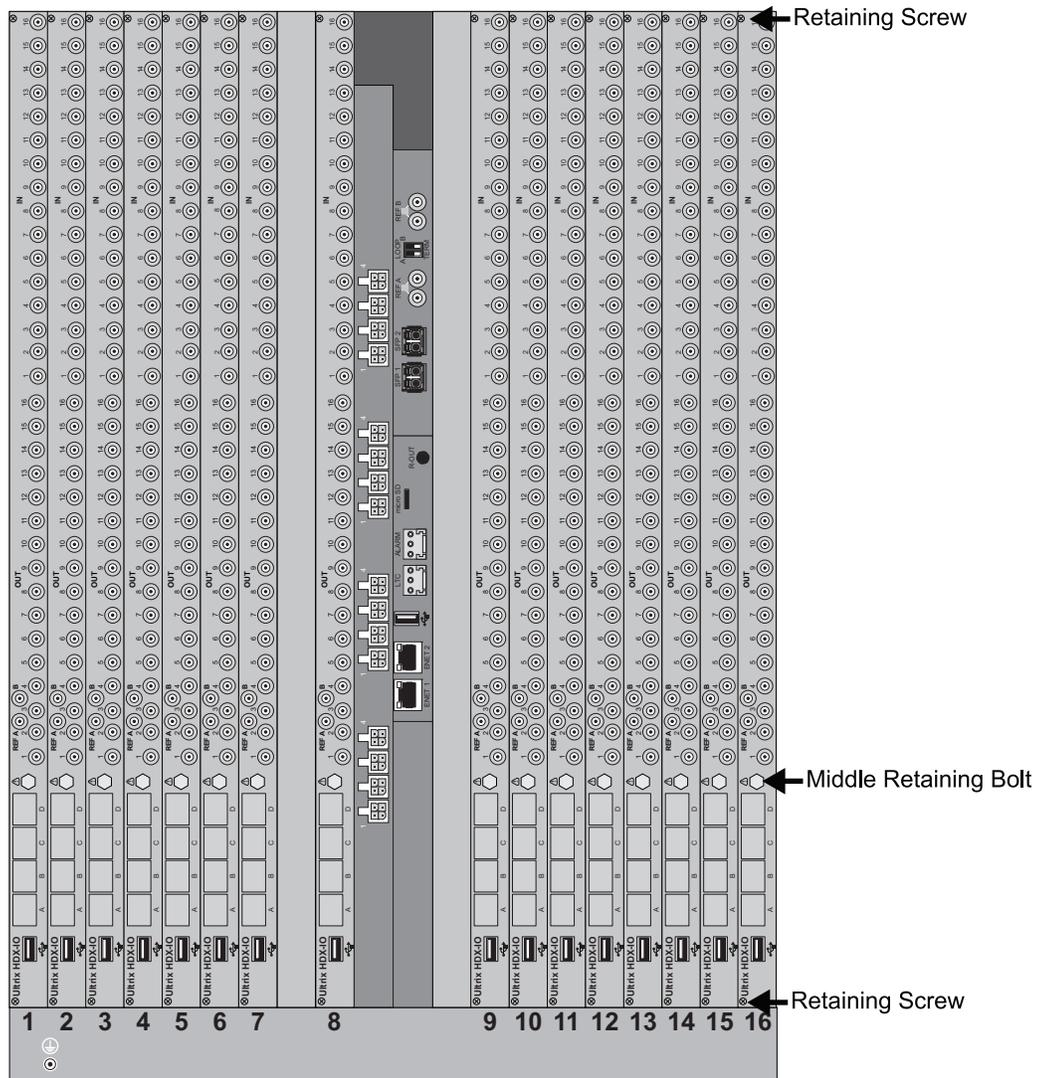

Figure 9 ULTRIX-FR12 Rear Panel — Location of Retaining Screws on an ULTRIX-HDX-IO Blade
3. Disengage the retaining screws on either end of the I/O Blade. Refer to **Figure 9**.
- From the ULTRIX-FR12 rear panel, unfasten the Middle Retaining Bolt. Note that this bolt is not removable but it does extract the blade. Refer to **Figure 9** for the bolt location.